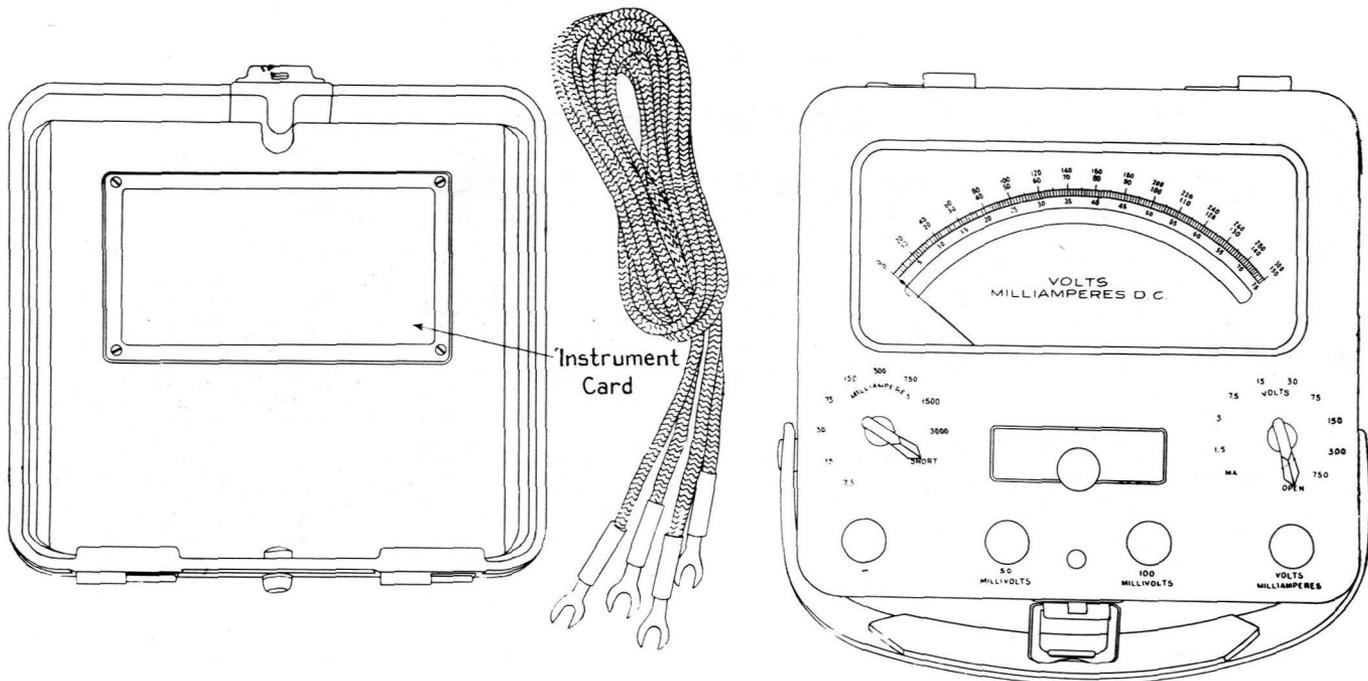

Fig. 1—KS-8039 Volt-Milliammeter
2.01 The meter and associated equipment are mounted in a bakelite case with a removable hinged cover. Shielding eliminates the effect of external magnetic fields. The overall dimensions of the case with the cover closed are approximately 5 inches (127 millimeters) by 8 inches (203.2 millimeters) by 8 inches (203.2 millimeters). (See Fig. 1.)